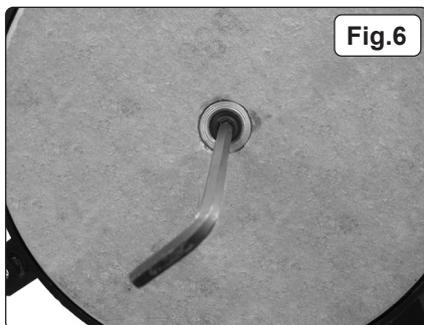

Fig.6
- 7.5.1. Remove the circular sanding disc to gain access to the socket headed screw that secures the aluminium sanding plate (fig.6).